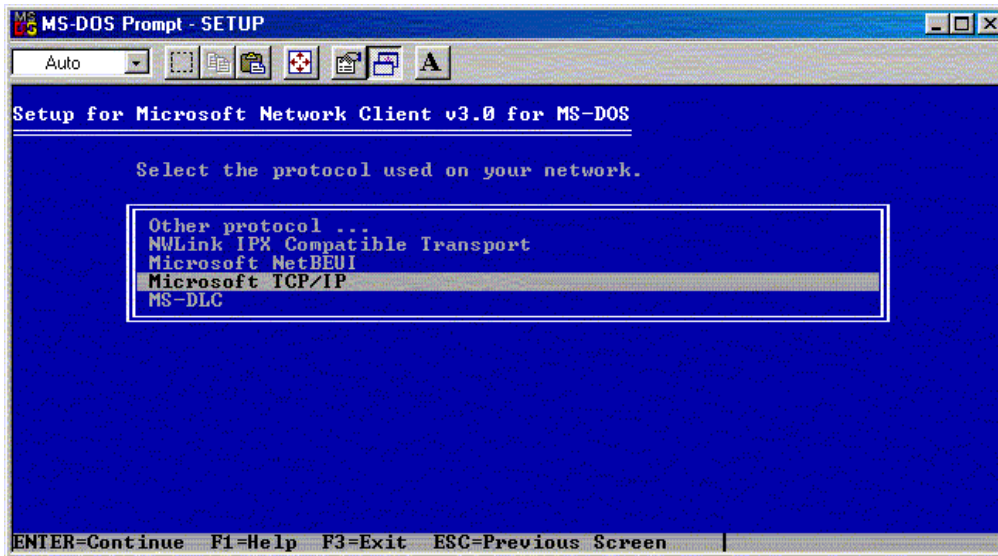

Figure A-12: Available network protocols
10. To add the TCP/IP protocol, select **Add Protocol**, then press the **Enter** key. A screen similar to Figure A-12 is displayed and shows all available network protocols.